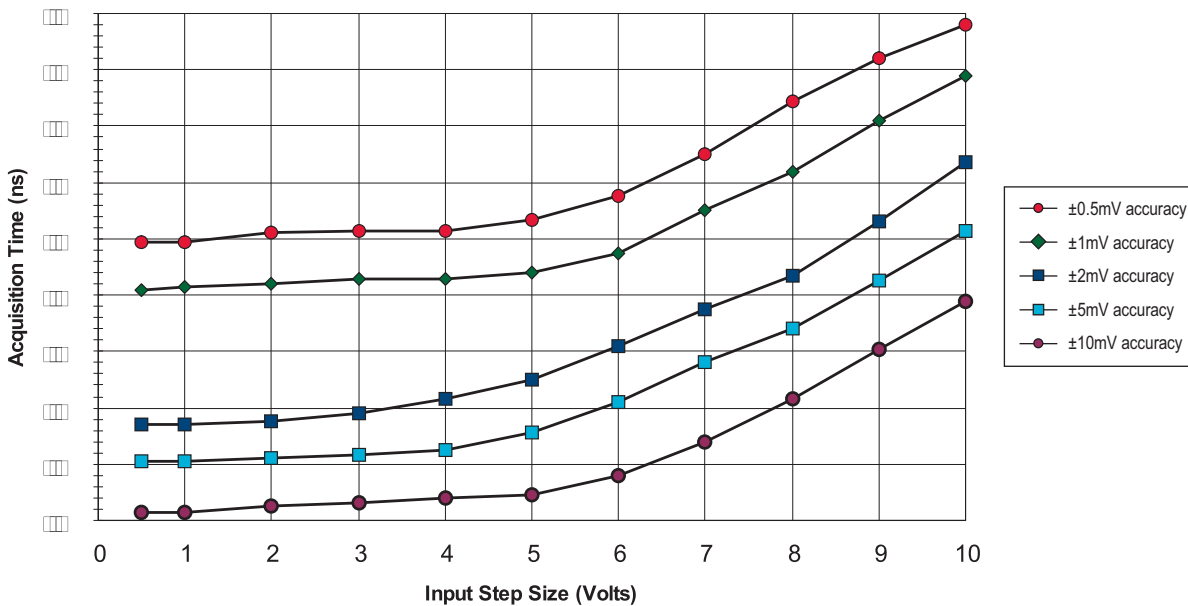

Figure 4. Acquisition Time versus Accuracy and Step Size
- ① Pins 3 and 4.
- ② See Figure 4 for relationship between input voltage, accuracy, and acquisition time.
- ③ Pins 6 and 22.
- See Figure 4 for acquisition time versus accuracy and input voltage step amplitude.
As shown in the plot (Figure 4) of acquisition times vs. input signal step